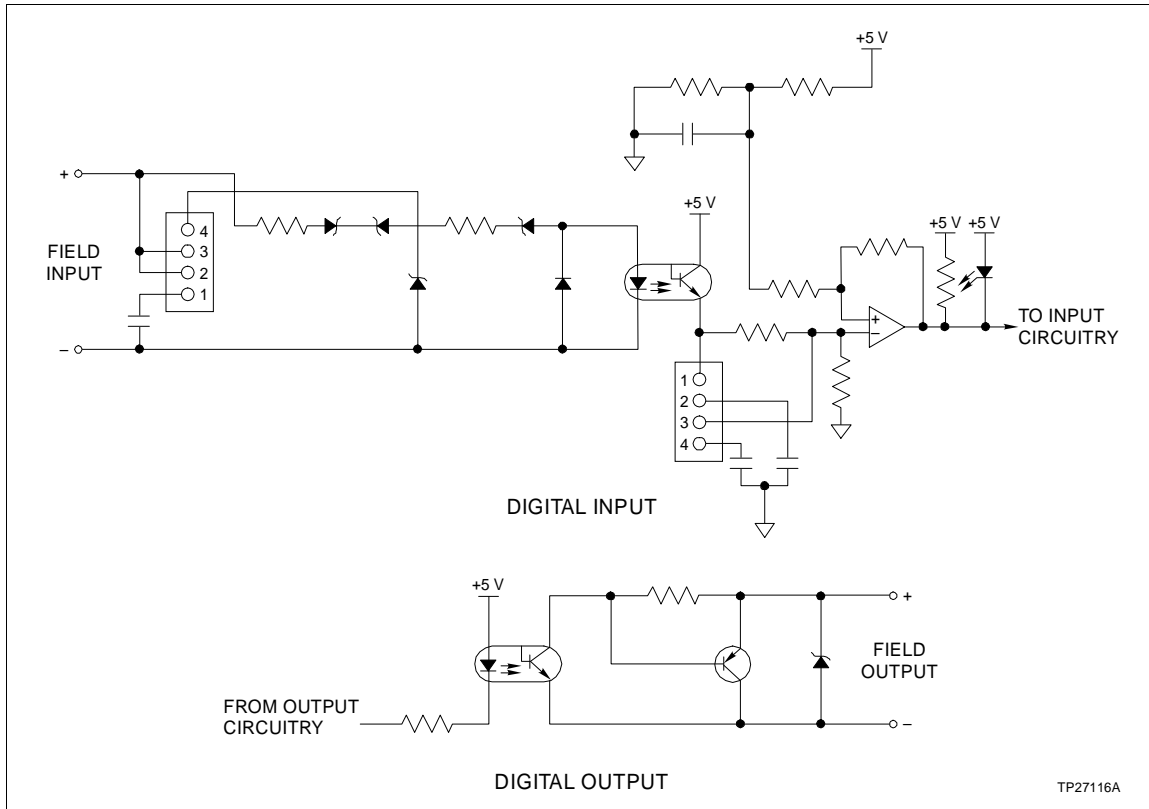

Figure 2-3. IMQRS02 Digital Input and Output Circuits
The QRS can input three separate digital signals and output four separate digital signals. Digital inputs are voltages of 24 VDC, 125 VDC or 120 VAC. These voltages indicate an energized (ON) field device; a 0 volt input indicates a de-energized (OFF) field device. The QRS digital outputs can switch 24 VDC at 250mA. Figure 2-3 shows the digital input and output circuits.